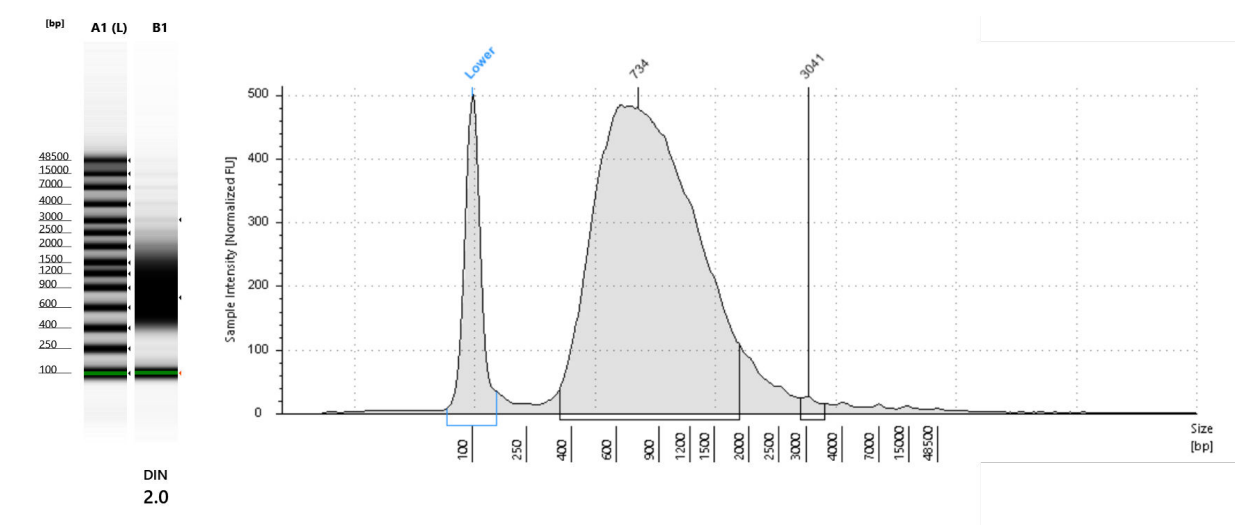

Figure 4 Agilent 2100 Bioanalyzer Image of PCR Products
-  Sedimentation of Capture Beads is normal after the reaction (Figure 4).